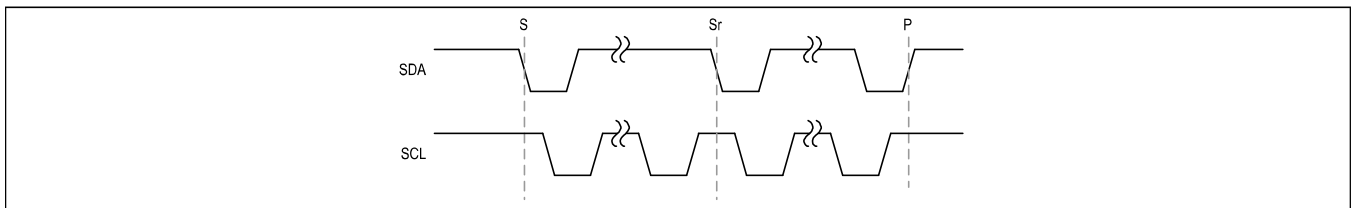

Figure 2. START, STOP, and REPEATED START Conditions
A master device initiates communication by issuing a START condition. A START condition is a high-to-low transition on SDA with SCL high. A STOP condition is a low-to-high transition on SDA while SCL is high (Figure 2). A START (S) condition from the master signals the beginning of a transmission to the MAX20480. The master terminates transmission and frees the bus by issuing a STOP (P) condition. The bus remains active if a REPEATED START (Sr) condition is